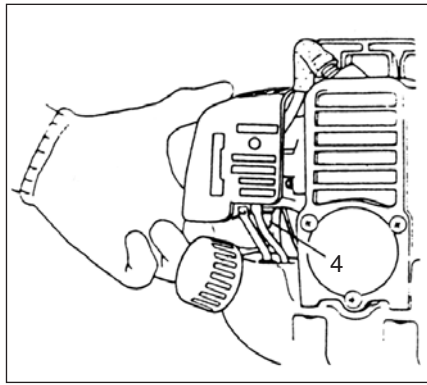
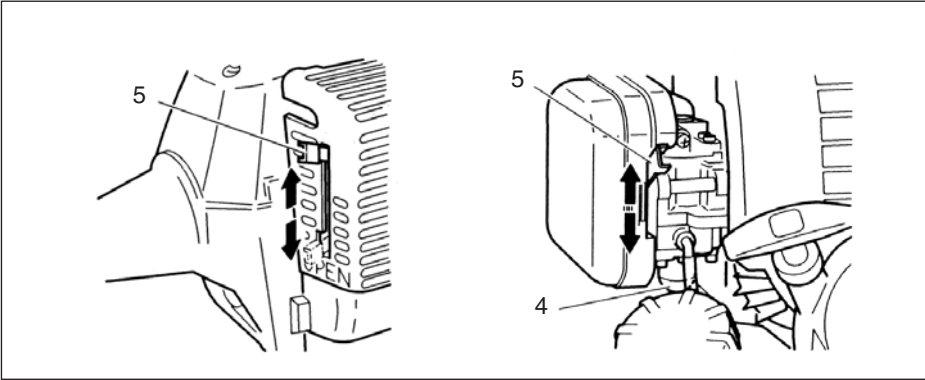

Fig.2-6
Fig.2-7
1. Set ignition switch (1) to ON position.
* Push priming bulb (4) several times so that fuel flows through the bulb or return pipe. (If so equipped) (Fig. 2-6, 7)
2. With the safety trigger (2) pressed (if so equipped), pull throttle trigger and push throttle lock (3), then slowly release the throttle trigger first, then the safety trigger. This will lock the throttle in starting position.
3. Set choke lever to CLOSED position (5). (Fig. 2-7)